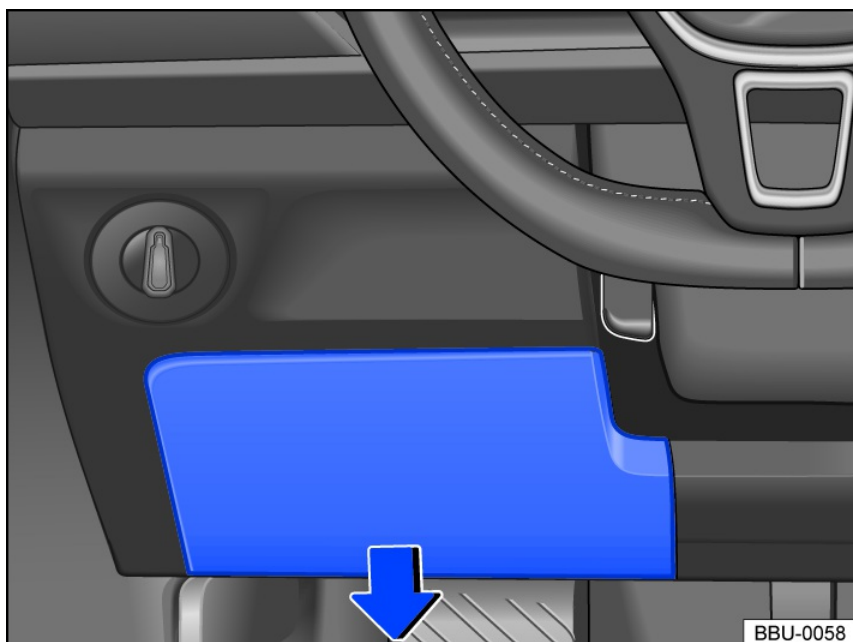

Fig. 138 Next to the steering wheel on the left: Cover for the fuse box in the dash panel.
- Pull the cover down in the direction of the arrow and remove it *fig. 138*.
- To *install*, push the cover into the dash panel mounts, in the opposite direction to the arrow, until it audibly engages *fig. 138*.